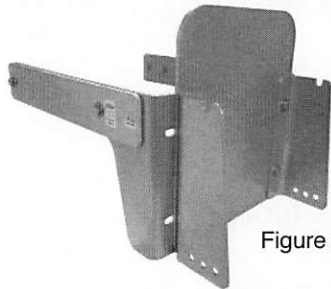

Figure 3
2. Assemble the bracket side rails, front plate and Transom Brackets and tighten bolts "finger tight" to allow adjusting during installation. (Fig. 3)
3. Using two 3/8" bolts and washers, finger tight only, attach Drill Guide to one of the PB side rails (Fig. 3).